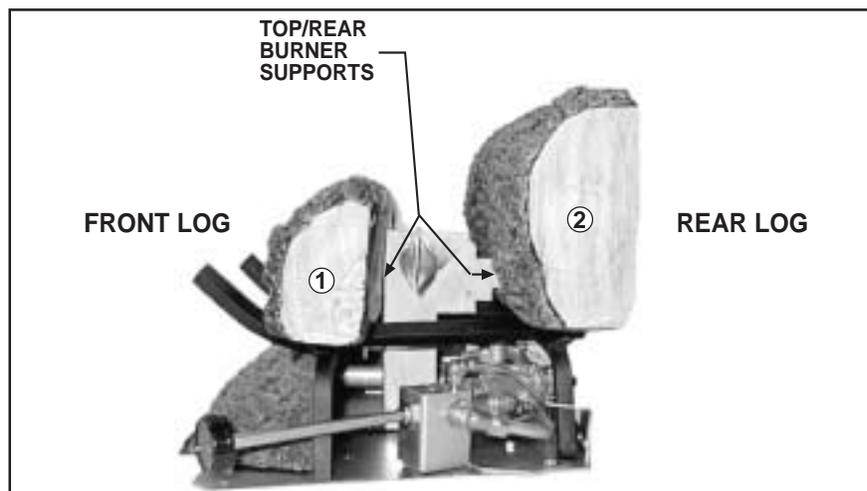

Figure 16
2. Each log in your Real-Fyre Unvented Gas Log Set is numbered to aid in the log placement procedures. Set the front log #1 and rear log #2 in their approximate positions on the grate (as shown in Figure 16). The rear burner supports are log positioners for Logs #1 and #2.
3. Center the front log #1 (left to right) so that the rear burner supports fit into the slots in back of this log (Figure 16).
4. Center the rear log #2 (left to right) and pull forward so the slots in the front of this log are against the rear burner supports (Figure 16).